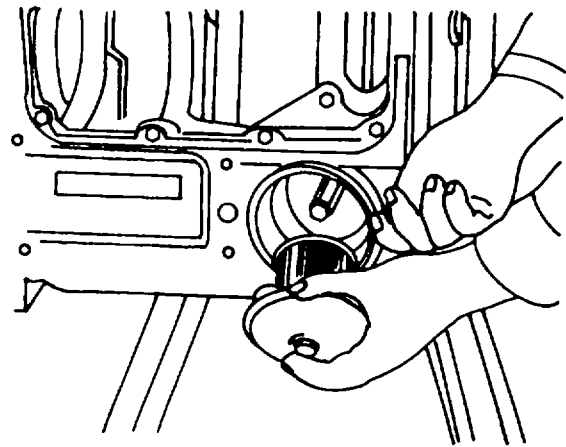

Figure 5-23. Install Oil Filter
18. Turn the engine upside down. Install a new gasket and mount the filter and cover (figure 5-23).